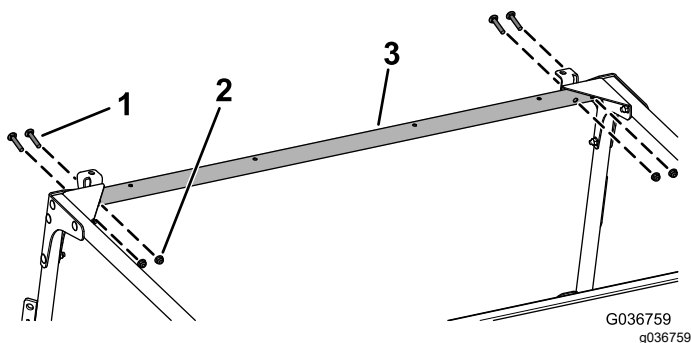

Figure 36
10. Loosely install the front crosslink to the front mount brackets and corner gussets using 4 carriage bolts (5/16 x 1-3/4 inches) and 4 flange nuts (5/16 inch) as shown in Figure 36.